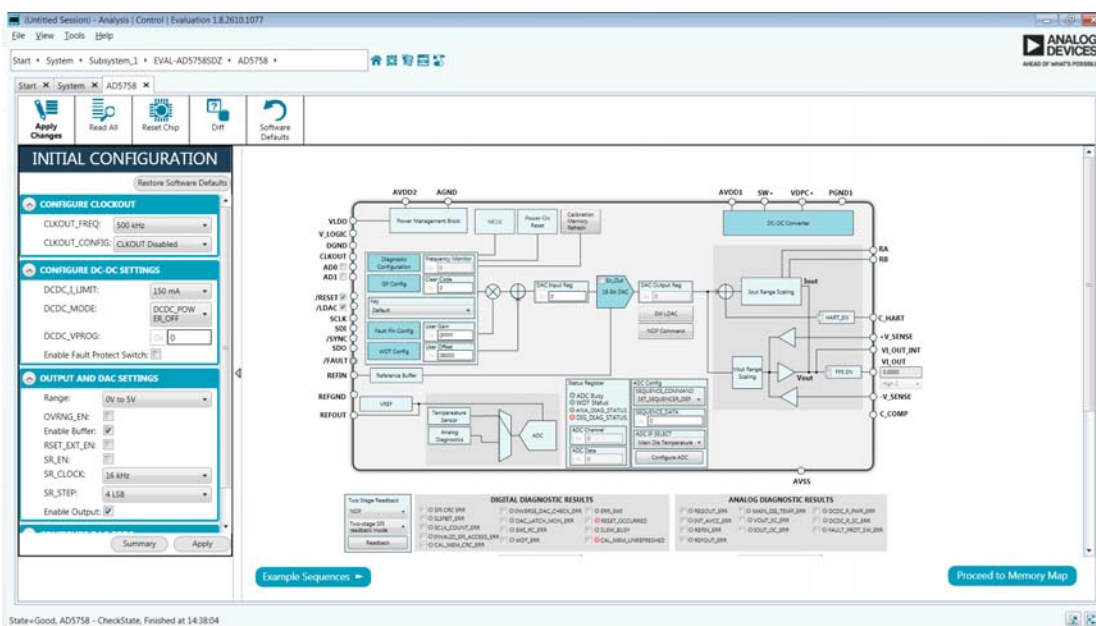

Figure 7. AD5758 Block Diagram in the ACE Software
7. Double-click EVAL-AD5758SDZ to open the **AD5758** block diagram (see Figure 7). The **INITIAL CONFIGURATION** menu appears on the left. This location is where several register settings can be configured and are written to the device in the appropriate order. The **DIG_DIAG_STATUS**, **RESET_OCCURED**, and **CAL_MEM_UNREFRESHEDLED** indicators are highlighted red by default. Writing the initial configuration values clears these error flags. If the device is power cycled, or if the USB cable is disconnected and reconnected while the **ACE** software is open, contact with the EVAL-AD5758SDZ may be lost. If contact is lost, click the **System** tab. Then, click the USB symbol on the EVAL-AD5758SDZ, and then click **Acquire** to communicate with the EVAL-AD5758SDZ again.